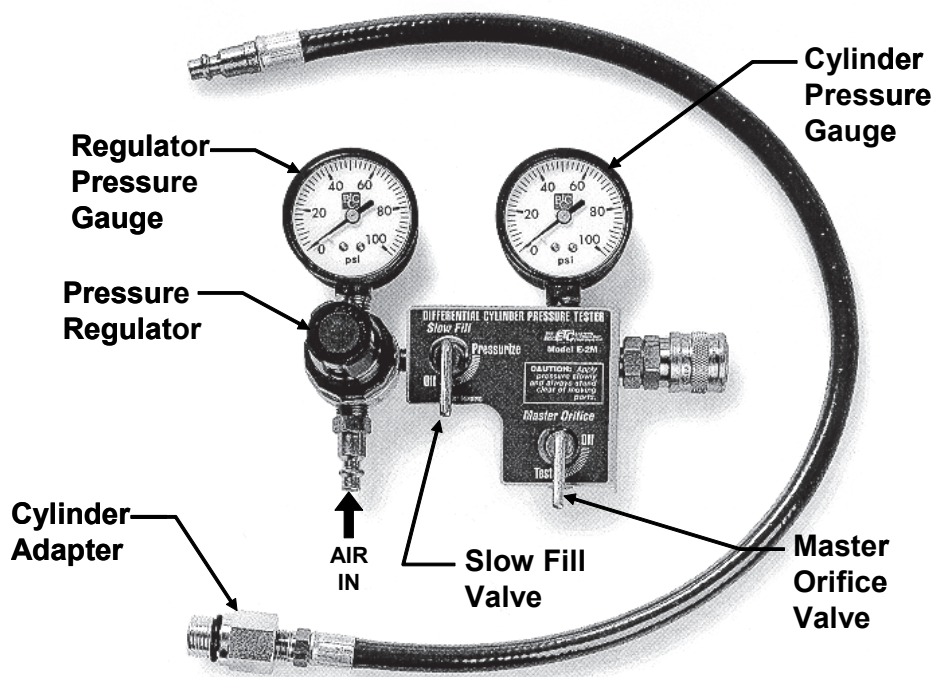

Figure 6-65. Model E2M Differential Pressure Tester
- Eastern Technology Corporation Model E2M (Figure 6-65) Cylinder Differential Pressure Tester. This Differential Pressure Tester incorporates a 0.040 Master Orifice Tool.
Perform this procedure to prepare the Model E2M Differential Pressure Tester (Figure 6-65) for use and establish the acceptable cylinder pressure leakage limit.